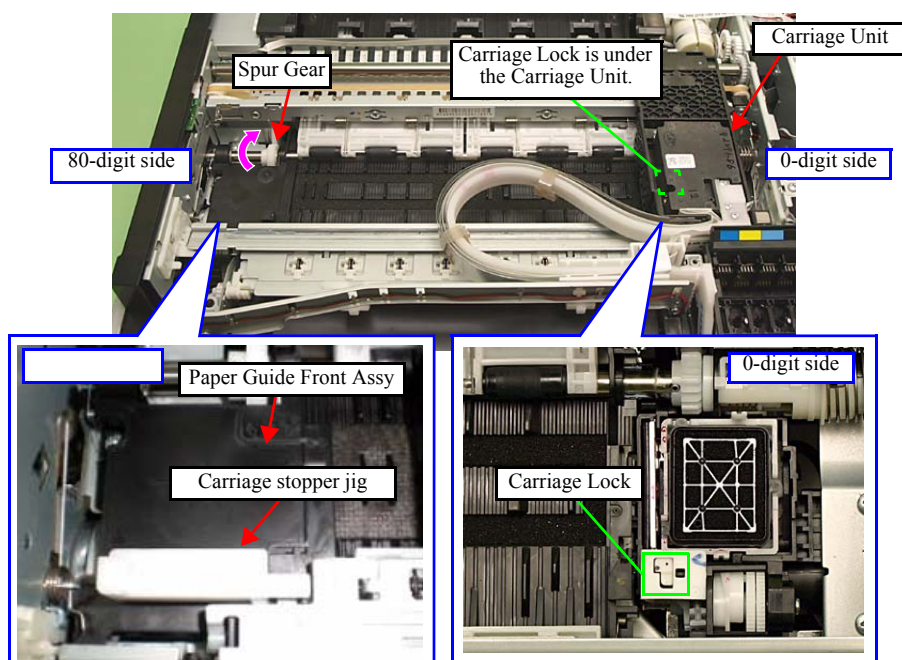

Figure 4-57. Releasing the Carriage lock and placing the Carriage stopper jig
2. Turn the Spur Gear in the direction of the arrow, and release the Carriage Lock. (See Fig. 4-57.)